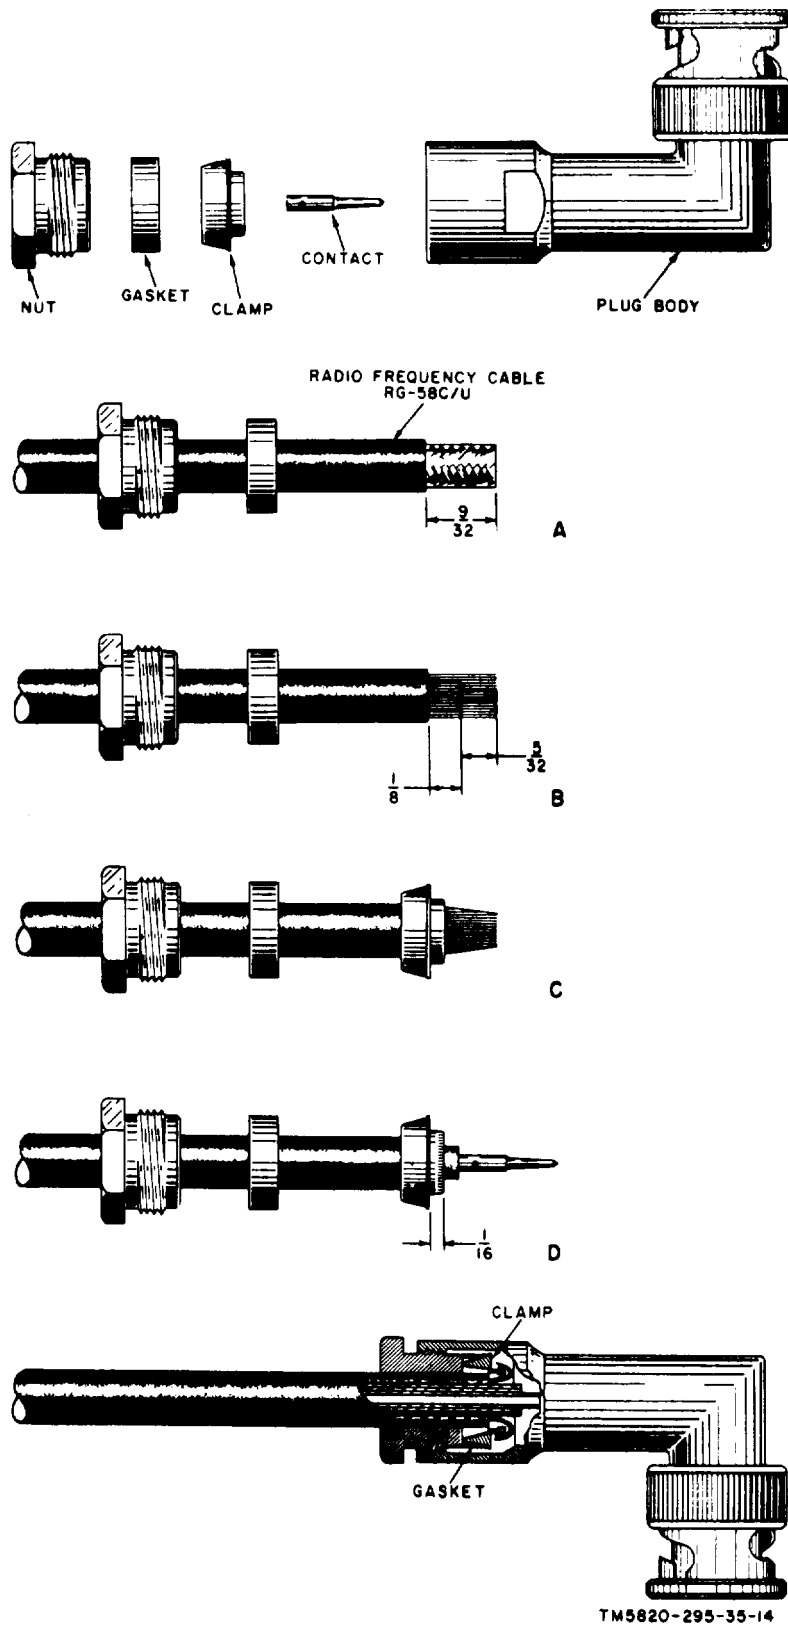

Figure 13. Replacement of Cable Assembly, Radio Frequency CG-1127/U.
(fig. 13)
- b. Place the nut and gasket on the cable and remove the outer insulator 9/32 inch as shown in A, figure 13. *Do not nick the braid.*
- c. Comb and fan out the braid; remove the cable dielectric, exposing the center conductor 5/32 inch as shown in B, figure 13. *Do not nick the center conductor.*
- d. Pull the braid wires forward, taper them and assemble the clamp as shown in C, figure 13. *Be sure the clamp is butted against the end of the outer insulator.*
- e. Fold back the braid wires, trim to the proper length, and form them over the clamp as shown in D, figure 13. When performed correctly, the required dimensions will be as shown.
- g. Insert the cable and parts into the plug body as shown in E, figure 13. Be sure that the sharp ridge of the clamp is properly seated in the gasket groove, tighten the nut.